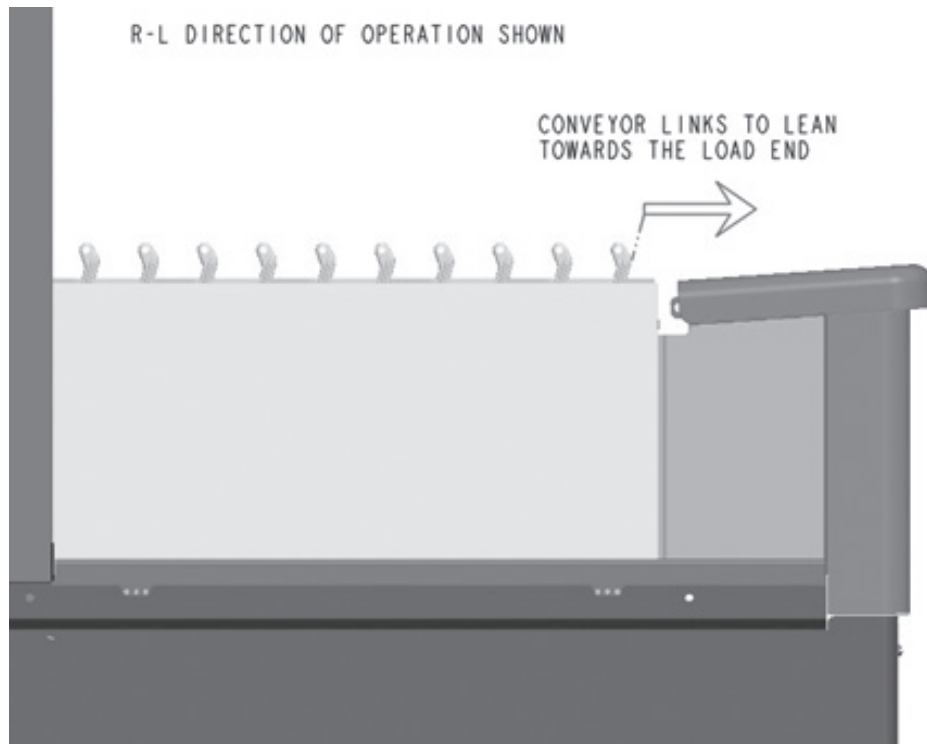

Fig. 32
- Position the first section of conveyor in line with the machine at the load end. The flight links must lean towards the load end of the machine (Fig. 32).